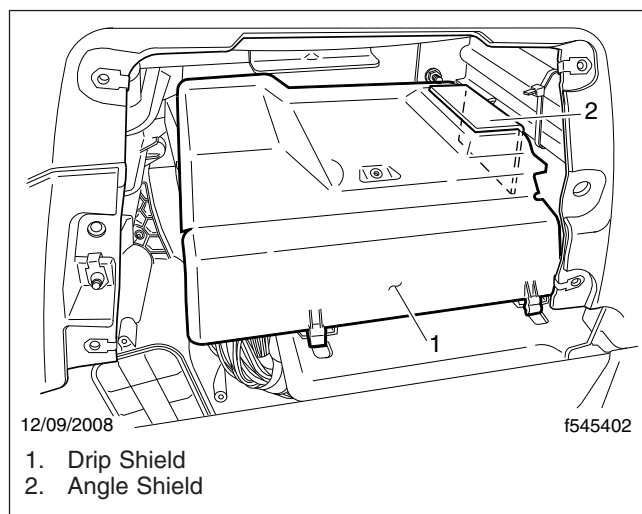

Fig. 3, Drip Shield Installed
6. Install the SAM cover shield and the angle shield on the right edge of the cover shield. See Fig. 3. Make sure that any wiring such as antenna cables are routed above these shields.